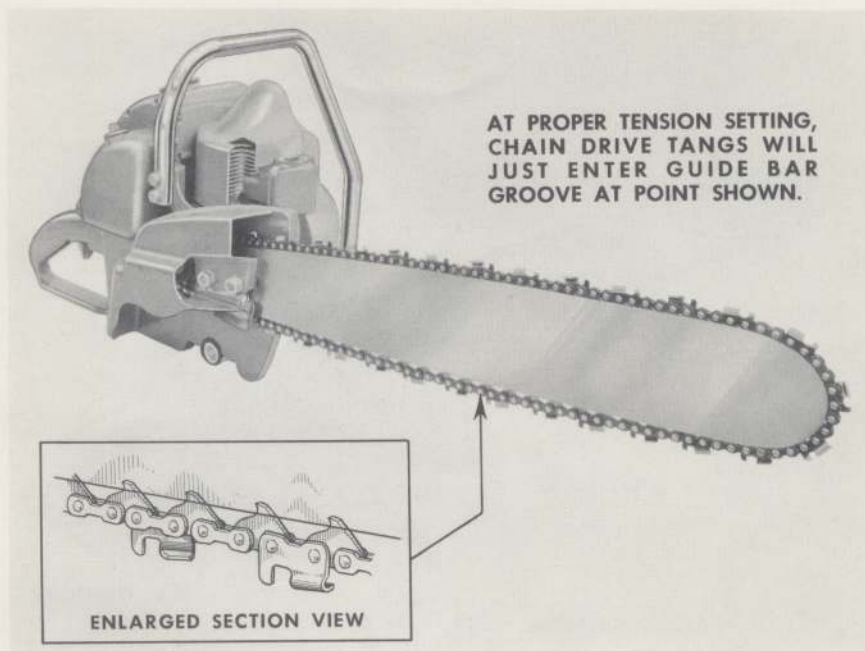

Figure 3—Adjusting Chain Tension
d. Adjusting Chain Tension (See figure 3.)
- (1) Hold up the tip of the guide bar to take up the play between the studs and the mounting slot. The guide bar must be held in this position until the chain tension has been adjusted and mounting stud nuts have been tightened securely. Otherwise the guide bar will shift on the first cut, changing the tension.
- (2) Turn the chain tension adjusting screw clockwise until the drive tangs *just* enter the guide bar groove at point shown in figure 3.
- (3) At the same point shown in figure 3, grasp the chain between thumb and forefinger—pull it downward—then release.
- (4) Once again turn adjusting screw clockwise until the drive tangs *just* enter the guide groove shown in figure 3. Now tighten the hex nuts to lock the tension device at this setting.
- (5) New chains always stretch slightly during the first half hour of operation. Keep the new chain generously lubricated while breaking it in. Shut off the engine after every few cuts and check the chain tension. Readjust the chain tension if necessary.